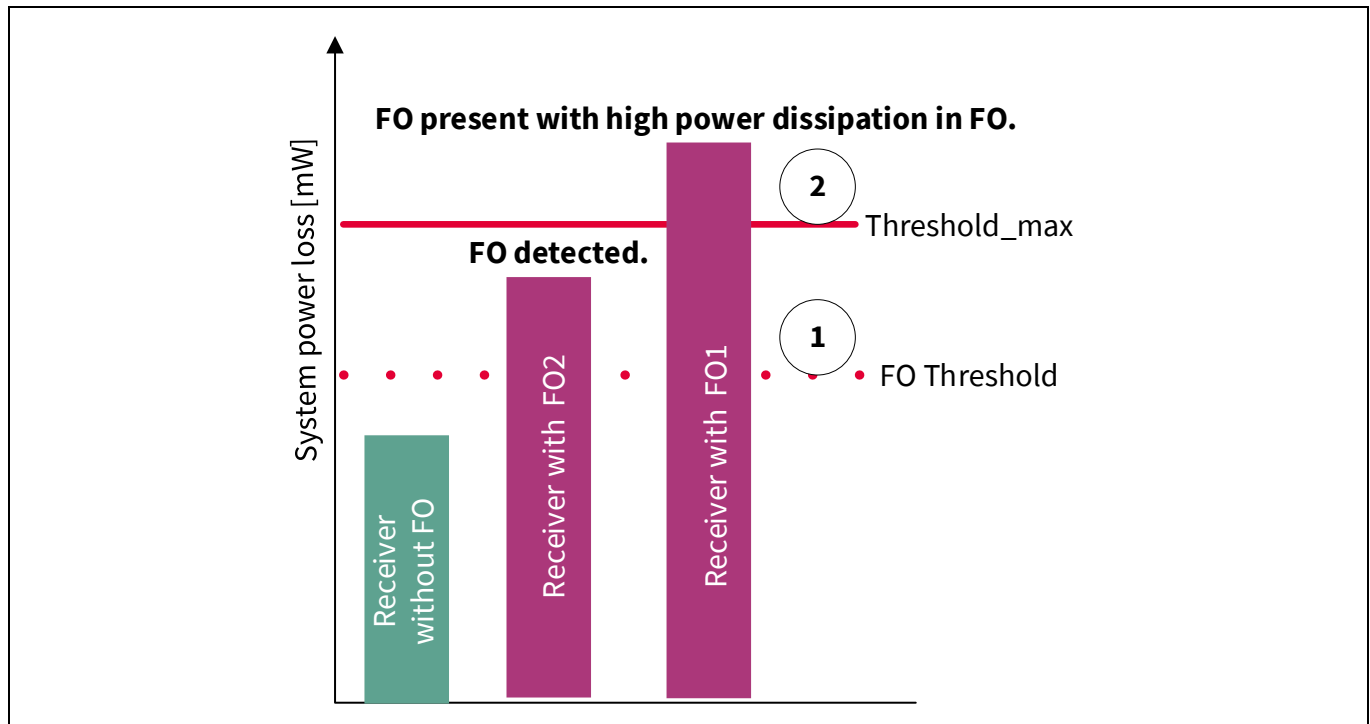

Figure 4 FOD mechanism based on system power loss
Case 1 represents the region ① and Case 2 represents the region ② in Figure 4.